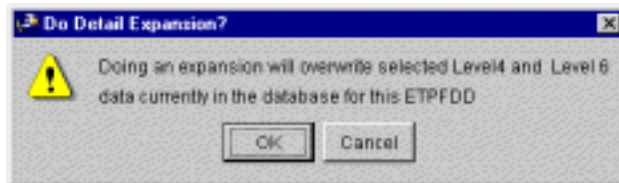

Figure 5.199 Do Detail Expansion? Window
- To expand the level 2, 3, and 4 records to individual items at level 6 detail for the selected RLNs, click Apply to Marked RLNs. The Level 2,3,4 to Level 6 window closes, and the Do Detail Expansion? window opens (Figure 5.199). Click OK to continue the operation. All the selected level 2, 3, and 4 records are expanded to level 6 detail, and the Do Detail Expansion? window closes.